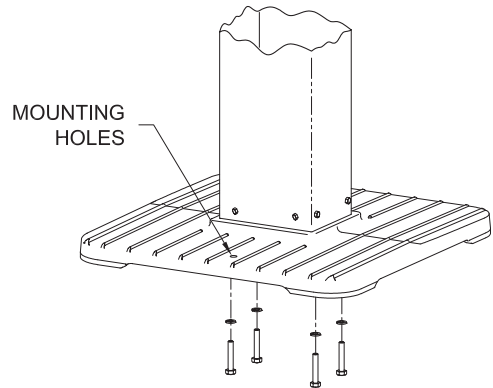

Figure 2
2. Fasten the bottom of the post to the cast base using 1/4 lock washers, and 1/4-20 hex bolts. See Figure 2. Anchor the cast iron patio base to your patio using the two holes provided in the base. (Hardware not included)